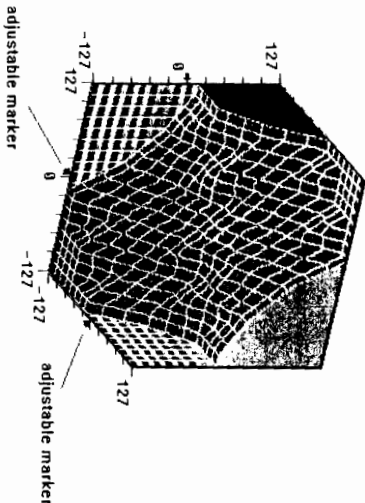

Figure 5-11 A Control Surface
8. Select Views/Surface from the Analyzer window menu. This causes the Analyzer to draw a 3-D image of the rule's transfer function, as shown in Figure 5-11.